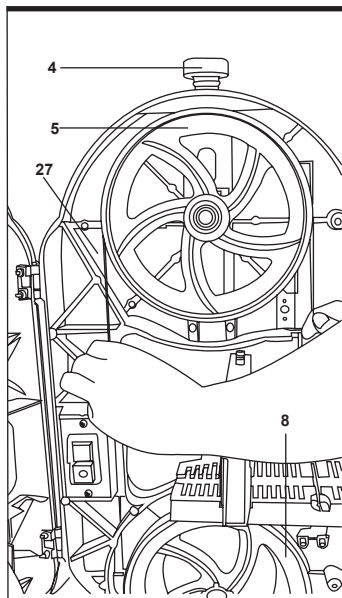

Fig 11
8. Changing the blade (See Fig11)